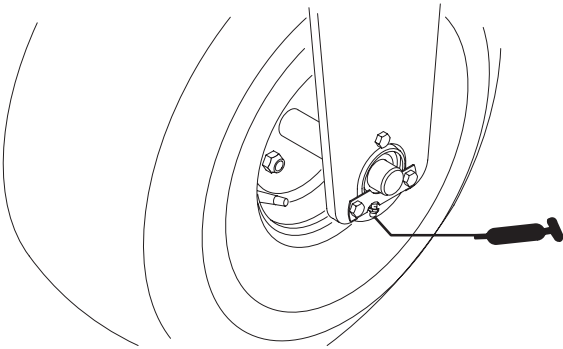

Figure 14
- Front wheel bearing (Fig. 14) (Sand Pro 3020 only)